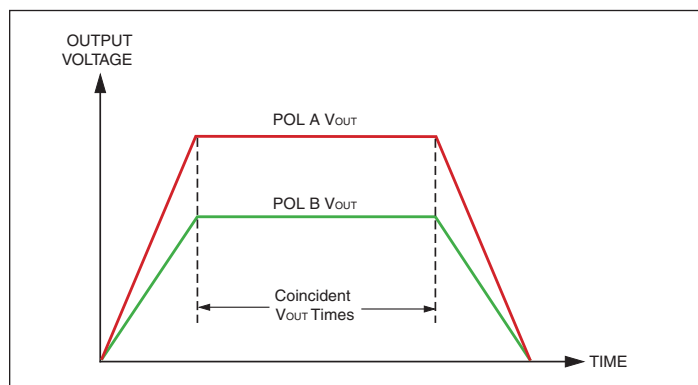
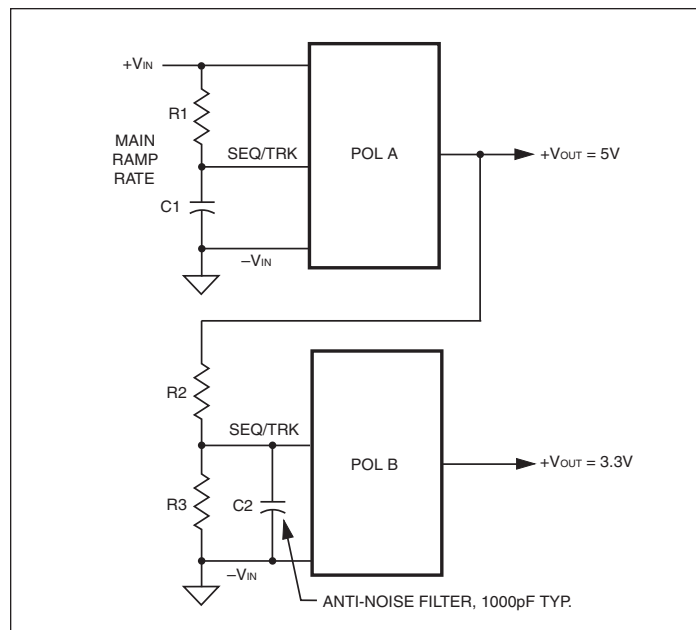

Figure 9. Proportional or Ratiometric Phasing (Identical V_{out} Time)
Figure 14. Proportional Phasing
Figure 9 shows two POLs with different slew rates in order to reach differing final voltages at about the same time.
Figure 14 shows both a RC ramp on Master POL A and a proportional track-ing divider (R2 and R3) on POL B. We have also added an optional very small noise filter cap at C2. Figure 14's circuit corresponds roughly to Figure 9's timing for power up.
- [7] The Sequence is a sensitive input into the feedback control loop of the converter. Avoid noise and long leads on this input. Keep all wiring very short. Use shielding if necessary. Consider adding a small parallel ceramic capacitor across the Sequence/Track input (see Figure 14) to block any external high frequency noise.